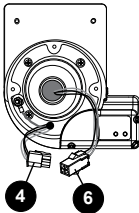

**FIGURE 2**
2. Once the UV bulb has cooled off remove the CLEARRAY System enclosure cover (2) by removing the four screws (1). This will expose the UV bulb and connections, Figure 2.